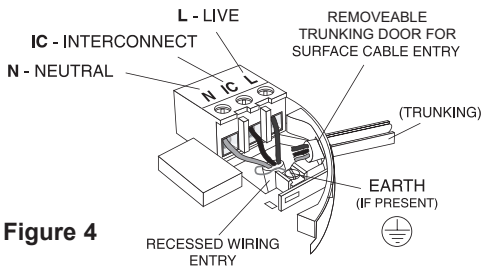

Figure 4
4. If the mains wires are recessed, bring the wires through the rear hole in the mounting plate as shown in **Figure 4**.
- (a) position the mounting plate so the cable trunking is as shown in **Figure 4**.